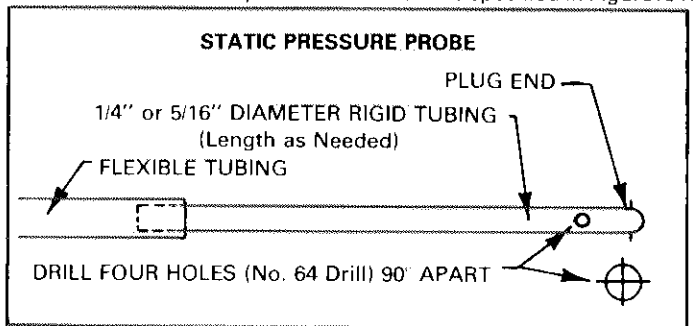

FIGURE 103
- 1 - Assemble a static pressure probe according to Figure103.